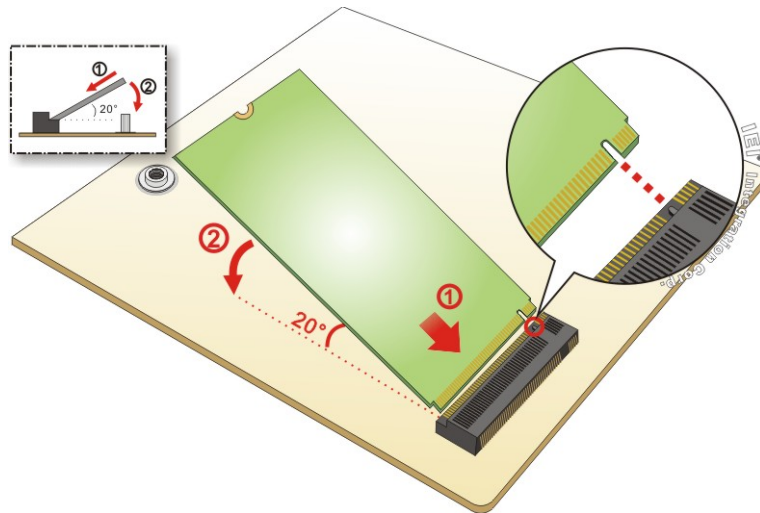

Figure 4-3: Inserting the M.2 Module into the Slot at an Angle
Step 3: Line up the notch on the card with the notch on the slot. Slide the PCIe Mini card into the socket at an angle of about 20° (**Figure 4-3**).